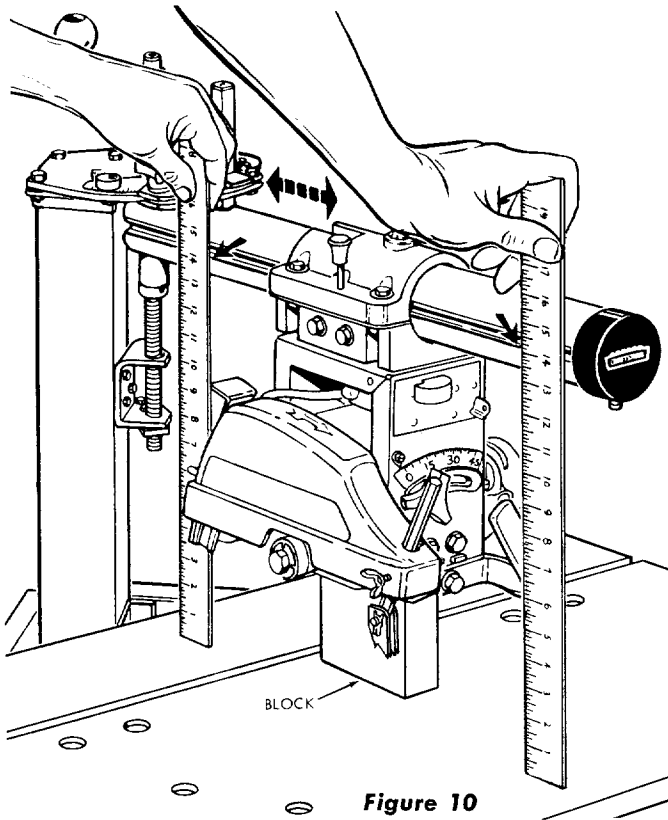
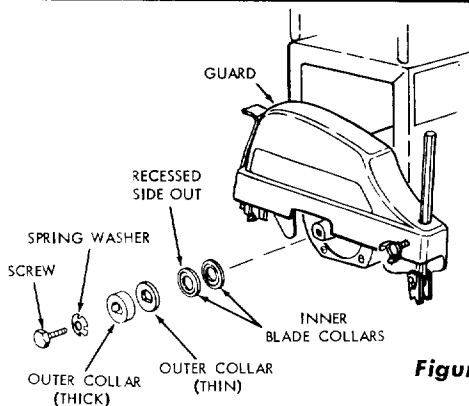

Figure 10
Figure 12
- b. Measure from the lower edge of the bearing groove in one side of the radial arm, to the table surface — at a point near the end of the arm and again at a point near the rear edge of front table, as shown in figure 10. These two measurements must be the same within 1/8 inch. If they vary more than 1/8 inch, proceed as follows:
- (2) Place a wood block (approximately three-inches thick) under the motor, as shown in figure 10.
- (3) Lower the motor onto the block, by rotating the lift crank, until some tension exists on the block.
- (4) Measure again at the two locations described in preceding step b, in order to determine if the two measurements are the same.
- (5) Continue to rotate the lift crank and measure until both measurements are the same (within 1/8-inch), then tighten the six hex-head screws that secure the column tube to the base assembly — tightening the two front screws first, followed by the four rear screws.
- (6) After all six screws have been tightened securely, raise the motor (by rotating the lift crank) and remove the wood block.
- b. Rotate the hex-head screw at saw end of motor shaft (figure 12) clockwise and remove the screw and spring washer. If the screw is tight, grasp the outer collars with pliers to keep from turning.
- d. Check the inner collar (that contacts the blade) to make sure the recessed side is facing outward. (See figure 12.)